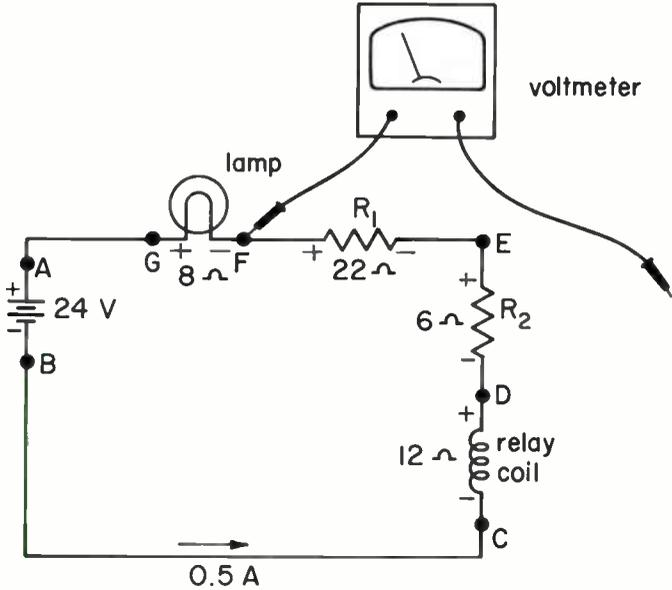

Fig. 21 The voltmeter reading depends upon where the meter is connected.
- 7 VOLTAGE IS ALWAYS RELATIVE . . . What's the voltage point F in Fig. 21? To find out, we use a voltmeter—one lead of which is, of course, connected to point F , as shown. But a voltmeter has *two* leads—so where do we connect the other lead? If we connect it to point E , the voltmeter will read 11 V; if we connect it to point D , the meter will read 14 V; if we connect it to point C , 20 V; and so on. In other words, to ask what the voltage is at point F is meaningless unless we specify the other point of measurement.
with some other point. In Fig. 21, we can say that the voltage at point *F* is 14 V with respect to point *D*; 20 V with respect to point *C*; or 11 V with respect to point *E*. To say that the voltage at point *F* is so many volts means nothing at all unless a reference point is stated or implied.
When we say that the voltage across R_1 in Fig. 21 is 11 V, we mean that the voltage at point *F* with respect to point *E* is 11 V (or the voltage at point *E* with respect to *F* is 11 V). When we say that the voltage of the battery in Fig. 21 is 24 V, we mean that the voltage at point *A* with respect to point *B* is 24 V. However, you shouldn't say that the voltage at point *A* is 24 V unless you're sure the person you're talking to understands that you mean the voltage at point *A* with respect to point *B*, the negative battery terminal. For example, the voltage at point *A* with respect to point *D* is *not* 24 V, but 18 V.
8 POLARITY WITH RESPECT TO REFERENCE POINT . . . More often than not, you'll want to know not only the numerical value of the voltage between two points, but also the polarity of that voltage. A voltage at a given point in a circuit is positive if it's more positive than the reference point. The voltage at point *F* in Fig. 21 is +14 V with respect to point *D*. We can tell this by the fact that the positive lead of the voltmeter must be connected to the point at which we want the voltage, point *F*, in order that the voltmeter will read forward. The voltage at point *D* is -14 V with respect to point *F*, because to measure the voltage at
1. In Fig. 21, the voltage and polarity at point *E* with respect to point *C* are _____.
2. In Fig. 21, the voltage and polarity at point *C* with respect to point *D* are _____. The voltage across the relay coil is ___ V. The voltage and polarity at point *D* with respect to point *C* are _____.
3. In Fig. 21, the voltage at point *B* with respect to point *C* is _____ V.
4. In Fig. 21, the voltage and polarity of point *A* with respect to point *E* are _____.